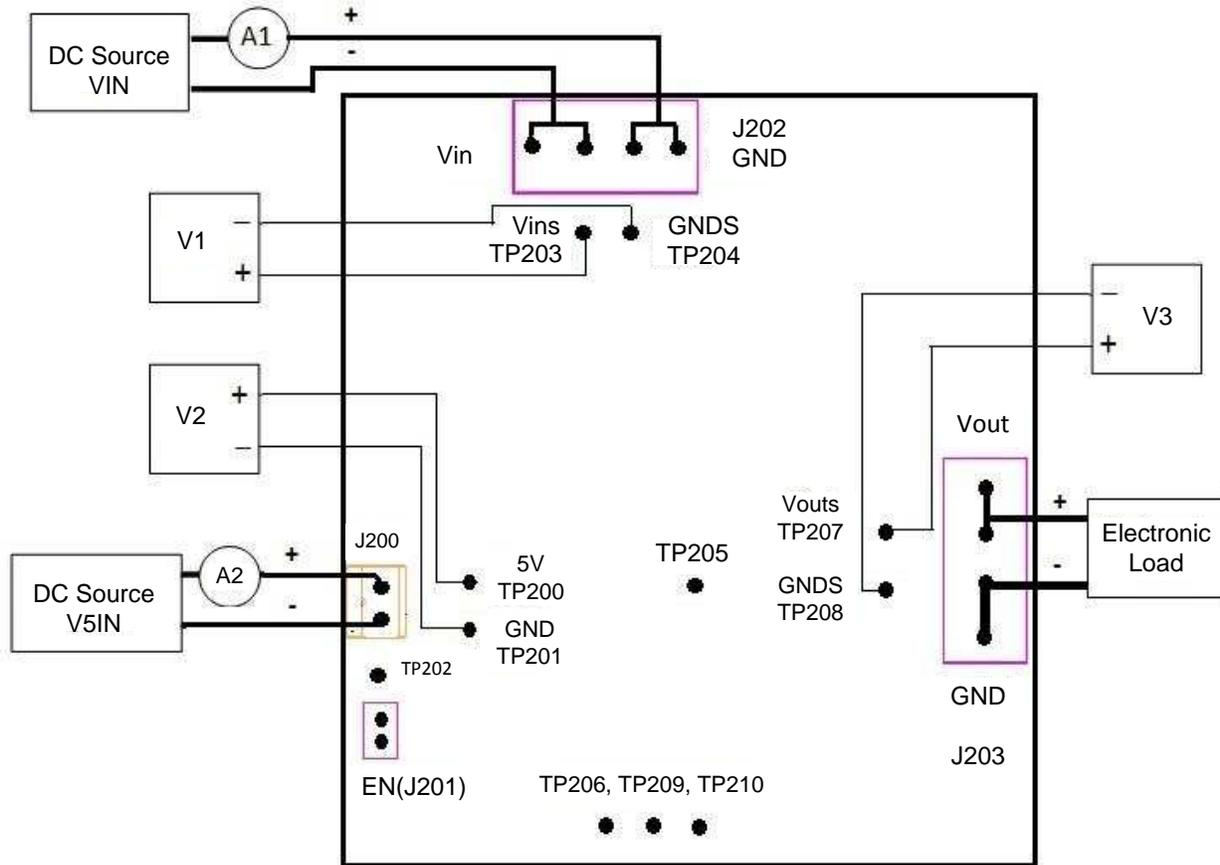

Figure 3. CSD87384MEVM-603 Recommended Test Setup
Voltage source VIN: The input voltage source VIN must be a 0-V to 20-V variable DC source capable of supplying 10 ADC. Connect VIN to J202 (as shown in Figure 3).
Voltage source V5VIN: The input voltage source V5VIN must be a 0-V to 5-V variable DC source capable of supplying 1 ADC. Connect V5VIN to J200 (as shown in Figure 3).
Figure 3 shows the recommended test setup to evaluate the CSD87384MEVM-603. Working at an ESD workstation, make sure that any wrist straps, bootstraps, or mats are connected. Reference the user-to-earth ground before power is applied to the EVM.
1. Prior to connecting the DC source VIN, TI recommends to limit the source current from VIN to 10 A maximum. Ensure that VIN is initially set to 0 V and connected (as shown in Figure 3).
2. Prior to connecting the DC source V5VIN, TI recommends to limit the source current from 5V to 0.5-A maximum. Ensure that V5VIN is initially set to 0 V and connected (as shown in Figure 3).
3. Connect a voltmeter, V1, at TP203 (Vins) and TP204 (GNDS) to measure VIN voltage, V2 at TP200 (5V), and TP201 (GND) to measure 5V voltage (as shown in Figure 3).